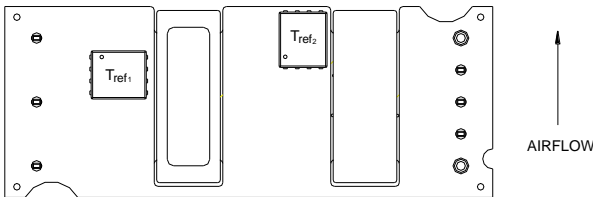
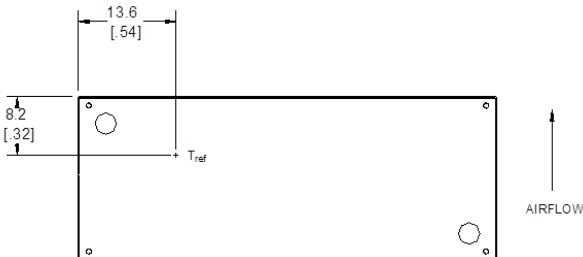

Figure 13. T_{ref} Temperature Measurement Locations for Open Frame Module.
Figure 14. T_{ref} Temperature Measurement Location for Module with Heatplate.
To provide protection under certain fault conditions, the unit is equipped with a thermal shutdown circuit. The unit will shutdown if the thermal reference point, T_{ref} , exceeds 135 $^{\circ}$ C (Figure 13, typical) or 120 $^{\circ}$ C (Figure 14, typical), but the thermal shutdown is not intended as a guarantee that the unit will survive temperatures beyond its rating. The module will automatically restart upon cool-down to a safe temperature.
The thermal reference points, T_{ref1} and T_{ref2} , used in the specifications for open frame modules are shown in Figure 13. For reliable operation these temperatures should not exceed 122° and 123 °C respectively.
The thermal reference point, T_{ref} , used in the specifications for modules with heatplate is shown in Figure 14. For reliable operation this temperature should not exceed 100 °C.